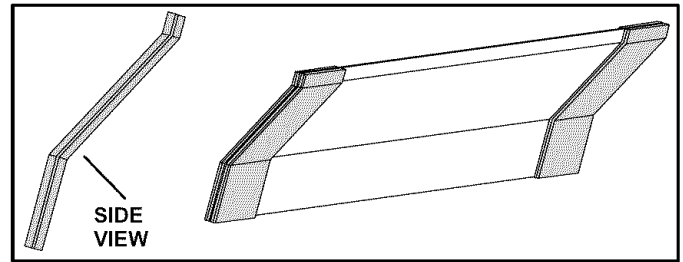

Figure 6
10. Apply two pieces of foam tape (provided) down both ends of each shield. The tape should measure 4-3/4" X 2" (120 X 25 mm). Ensure that the tape covers both sides of the shield equally (see figure 6).